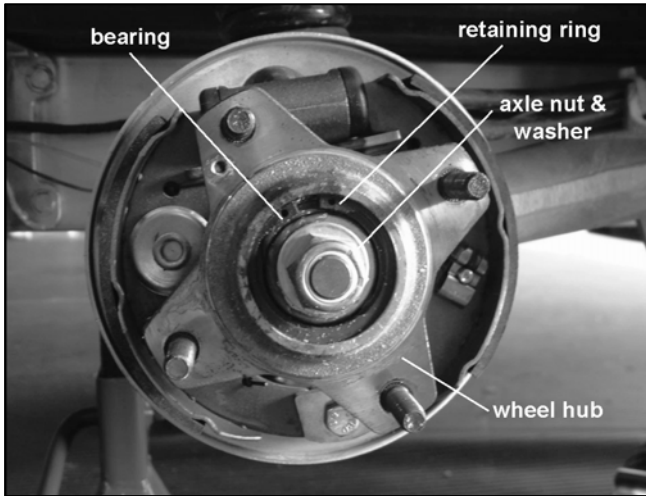

Figure 6-4
6. Place tire upright against a wall and push against tire on opposite side (Figure 6-4). This three-point contact will bring bead out to contact wheel and bead snaps into place as air is applied.
2. Remove the axle nut and washer then remove wheel hub (Figure 6-4).